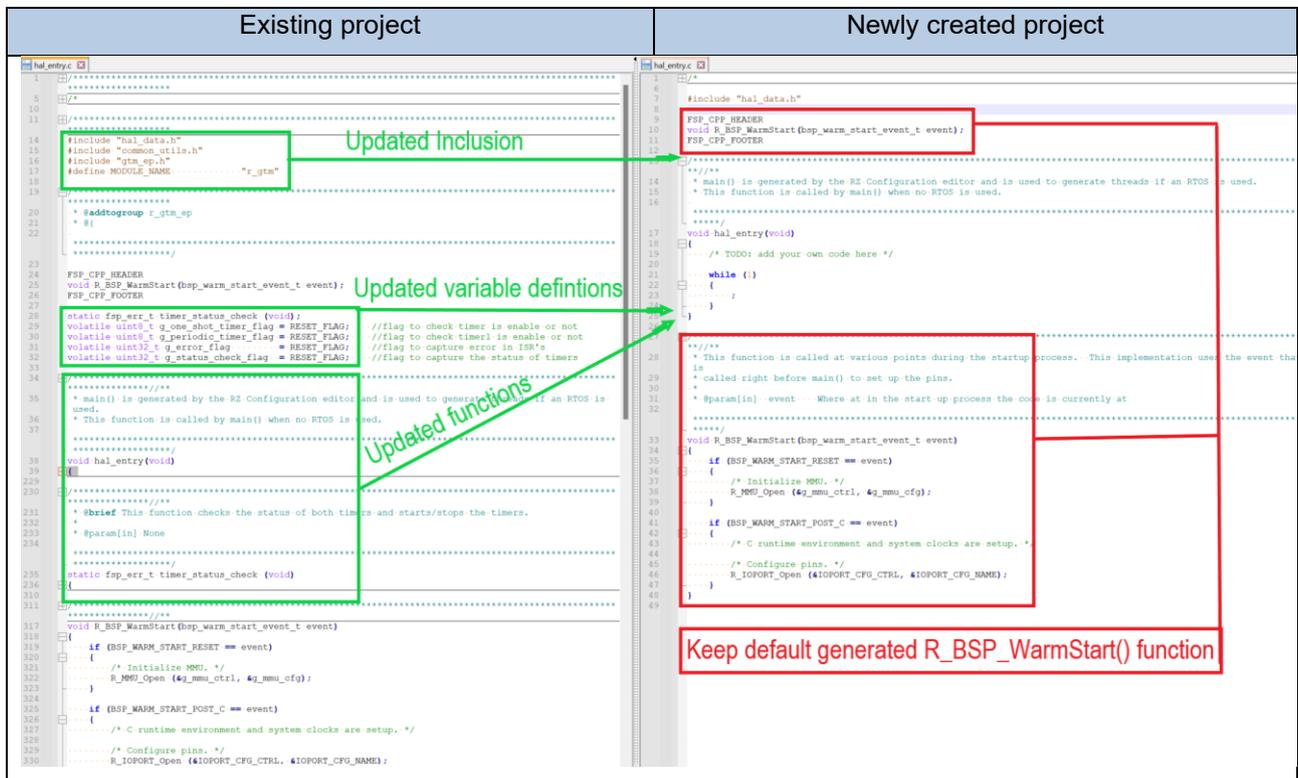

Figure 9. Keep generated R\_BSP\_WarmStart() function
- In hal\_entry.c, update only the source code related to the example project while keeping the generated template. As shown in Figure 9, update only other functions in hal\_entry.c, excluding R\_BSP\_WarmStart().